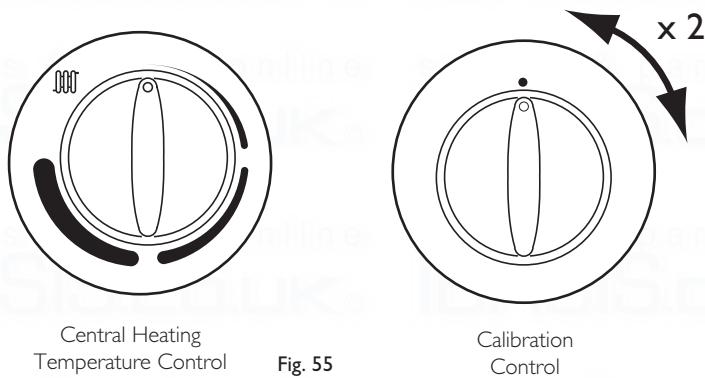

Fig. 55
5. Turn both temperature control knobs fully anticlockwise, then quickly turn the Calibration Control knob $\frac{1}{4}$ clockwise twice and back fully anticlockwise (Fig. 55).